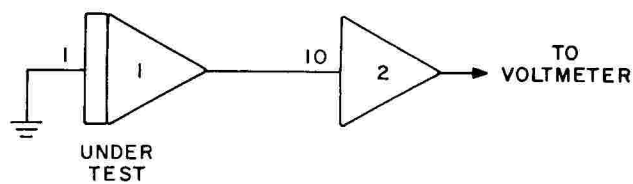

Figure 22. Integrator Drift Rate Check Circuit
(1) Connect the circuit shown in Figure 22. Place the computer in the reset mode, and balance the amplifier. Monitor the output of amplifier 2 with the voltmeter.
(2) Switch the computer to OPERATE; after 100 seconds, record the meter readings.
(3) The meter reading should be less than 0.05 volt. This corresponds to a drift rate of 50 microvolts per second. (If the integrator fails this test, the amplifier should be checked for high offset.)